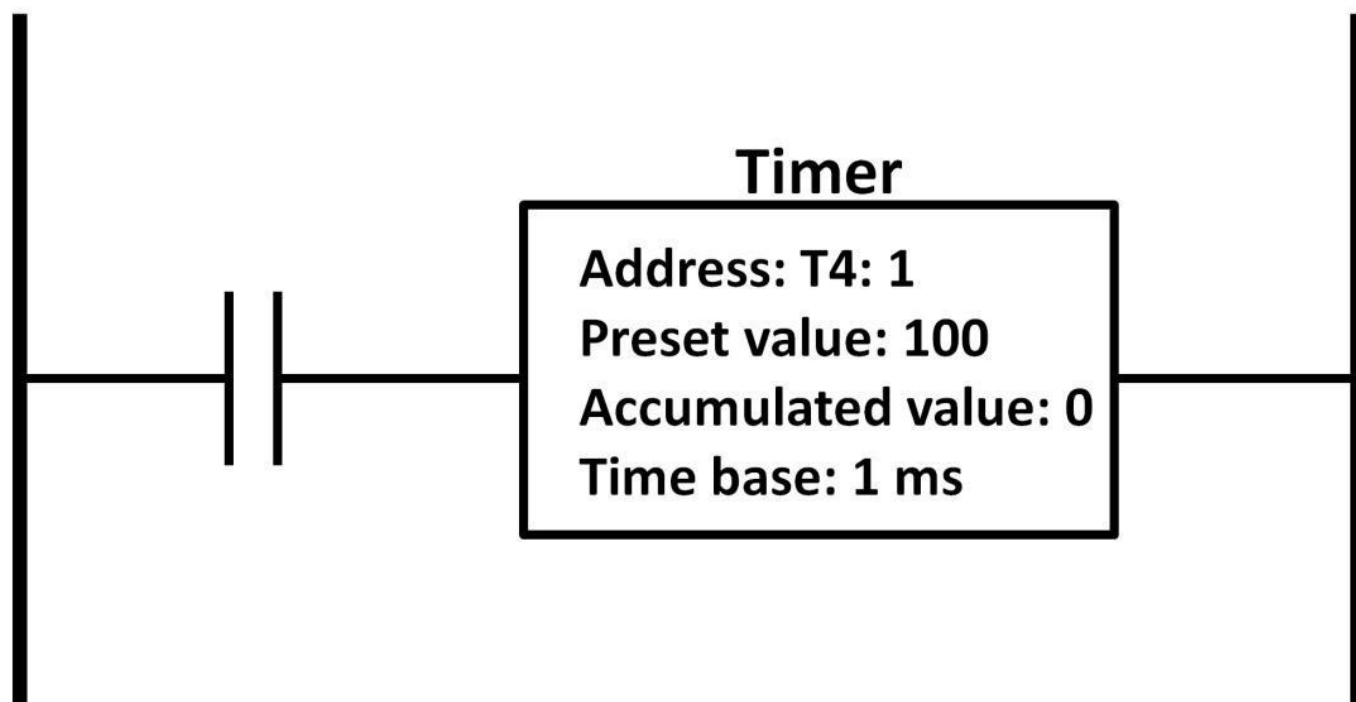
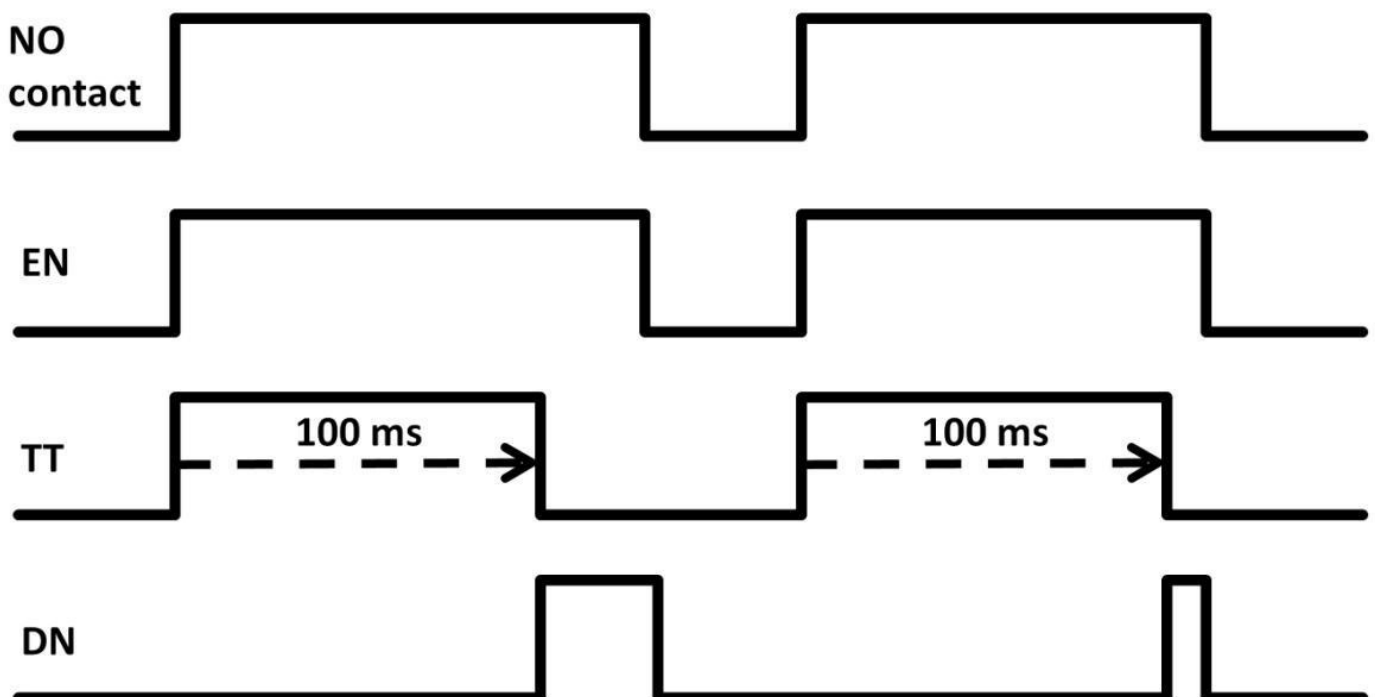

Figure 8.30: Timer symbol and parameters
Figure 8.31: On-timer timing diagram
Let's now go over timers in ladder logic programs. Time is a critical parameter in PLC systems. The timer is a step counter and the step size is determined by time base, which is easily changed in PLC software. On- and off-timers are available to perform timing functions. The timer ladder logic symbol of an On-timer controlled by an NO contact is shown in figure 8.30.
A timer requires a unique address to differentiate itself from others. In order to program a timer, a preset value, time base, and accumulative values need to be set up. In figure 8.30, the timer address is T4: 1. The delay timer is calculated by multiplying the preset value by the timer base, (i.e., **100 X 1 ms = 100 ms**). If a delay time of 1 s is desired, the preset value can be programmed to 1,000, (i.e., **1,000 X 1 ms = 1 s**). The time base can be changed to other values by software conveniently. Accumulated value represents the delay time measured in real time. It usually starts from zero seconds. A programmer can read the accumulated value during program mode in real time. In addition to timer parameters, a timer comes with output bits that can control other contacts. These bits are enable (EN), timing (TT), and done (DN) bits. The specific address of each bit is associated with the timer's address. Using T4: 1 as the timer address, timer bit names and addresses are shown in table 8-3.
Using figure 8.30 as a reference, we can construct a timing diagram to further understand how a timer works (see figure 8.31). When the NO contact's output is logic high, the EN bit follows while the timer starts to time (the TT bit goes high while the timer is timing). At the end of 100 ms, the timer has reached the time delay value set by the preset value. As a result, the done bit (DN) goes high, and TT now goes low because the timer is no longer timing. If the NO contact output remains high, the DN bit stays high. If not, the DN bit goes low, as does the EN bit. Essentially, EN follows the output status of the NO contact.